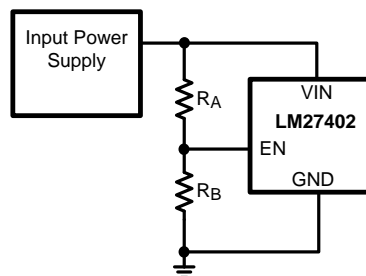
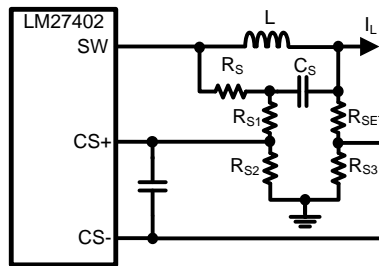

Figure 28. Enable Sequencing
Figure 34. Common Mode Voltage Resistor Divider Network
If enable (EN) is not controlled directly, the LM27402 can be pre-programmed to turn on at an input voltage higher than the UVLO voltage. This can be done with an external resistor divider from VIN to EN and EN to GND as shown in Figure 28.
The internal current source I_{CS-} is powered from the input voltage rail (VIN). The minimum voltage required to power the current source is 1V from VIN to V_{OUT} . If a condition occurs where $V_{IN} - V_{OUT} < 1V$, the LM27402 may prematurely initiate hiccup mode. There are multiple options to avoid this situation. The first option is to enable the LM27402 after the input voltage has risen 1V above the nominal output voltage as seen in Figure 28. The second option is to lower the comparator common mode voltage shown in Figure 34 such that the I_{CS-} current source has enough headroom voltage.